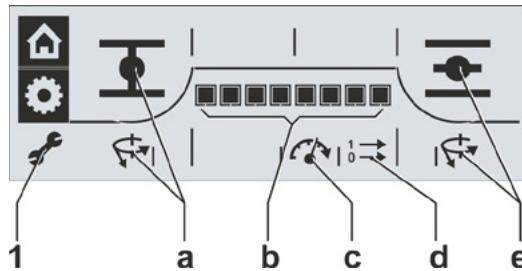

Fig. 4: View parameters
4. Confirm selection: Press Drive Controller. The 'Parameter' symbol (fig. 4, item 1) is active: both parameters and settings will be displayed one after the other, refer to figure 4: